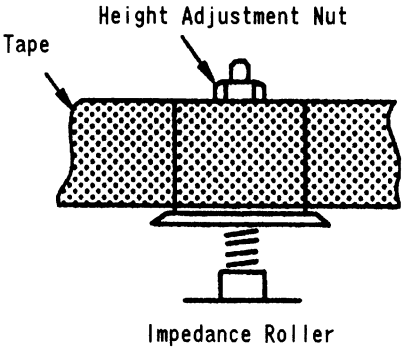

Fig. 4.
6. If any curling or creasing is noted, adjust tape guide roller and impedance roller first. In this case, adjust the impedance roller in both PLAY and REV modes so that tape runs as shown in Fig. 4.